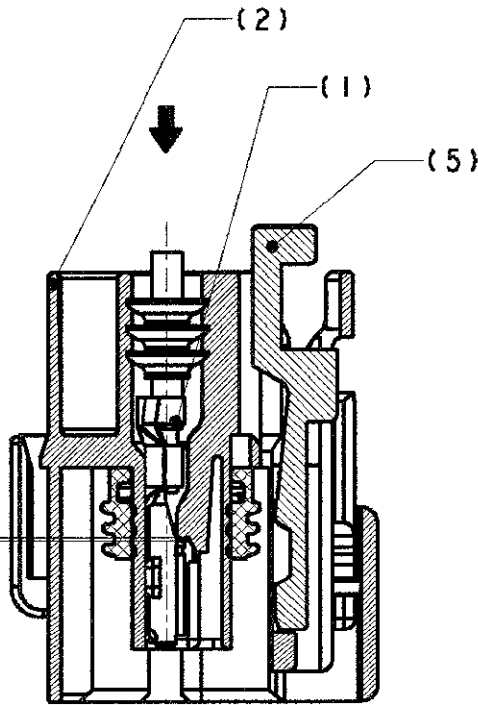

Fig. 4
Insert and push the contact (1) into the cavity until you hear a metallic sound. The "sound" is caused by the retention lance click and indicates that the receptacle contact is correctly inserted and locked (see figure 4). After contact insertion, pull slightly back the crimped wire, to verify that the terminal is firmly kept in its correct position.